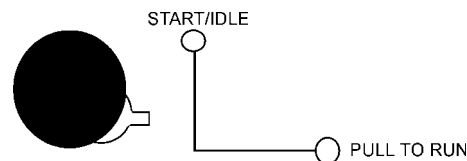

Figure 45. Engine Throttle Handle (HIGH)
8. Pull and turn the engine throttle handle to increase the RPM to 'high' (Figure 45).